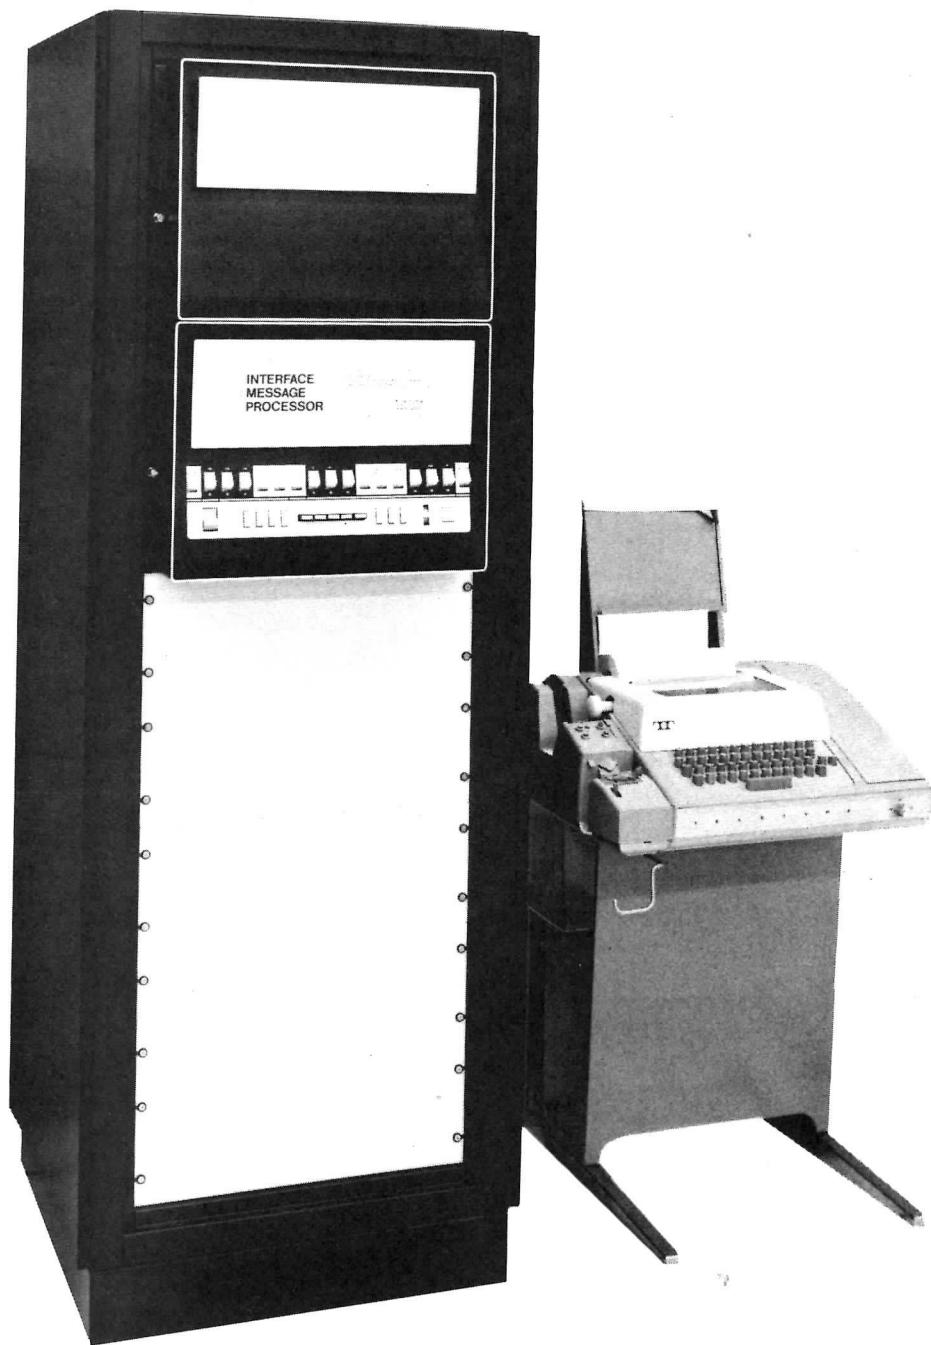

Figure 2. 316 IMP and IMP Teletype
- The 316 IMP, Honeywell H316 (see Figure 2).